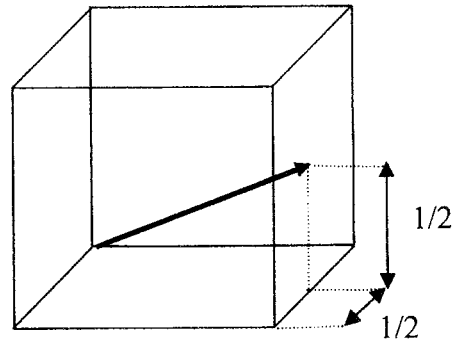

Figure 1 - A cubic crystal structure
1. What is the notation for vector direction in the cubic crystal structure in Figure 1?